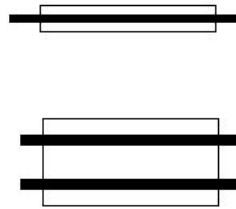

Figure 3
- A very thin, insulated parallel feeder can be fabricated by using a good quality plastic sheet and copper foil tape (3,6) - see Figure 3. With non-metallic window frames the impedance "bump" of such a feeder no longer than a foot should be negligible if a tuner is used. The feeder is thin and flexible enough to fit *under* a closed window sash.